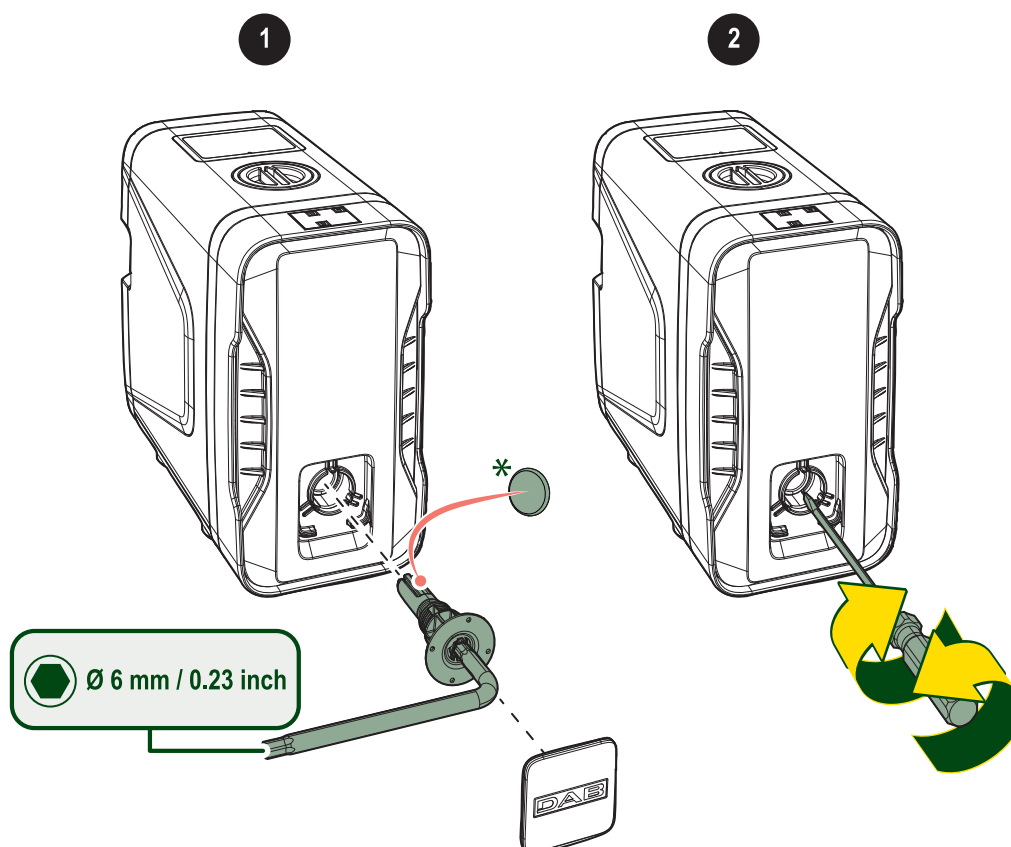

Fig. 21 Access to motor shaft
- remove the access cap from the motor shaft using a 6 mm Allen key (see **Fig. 21 Access to motor shaft**)